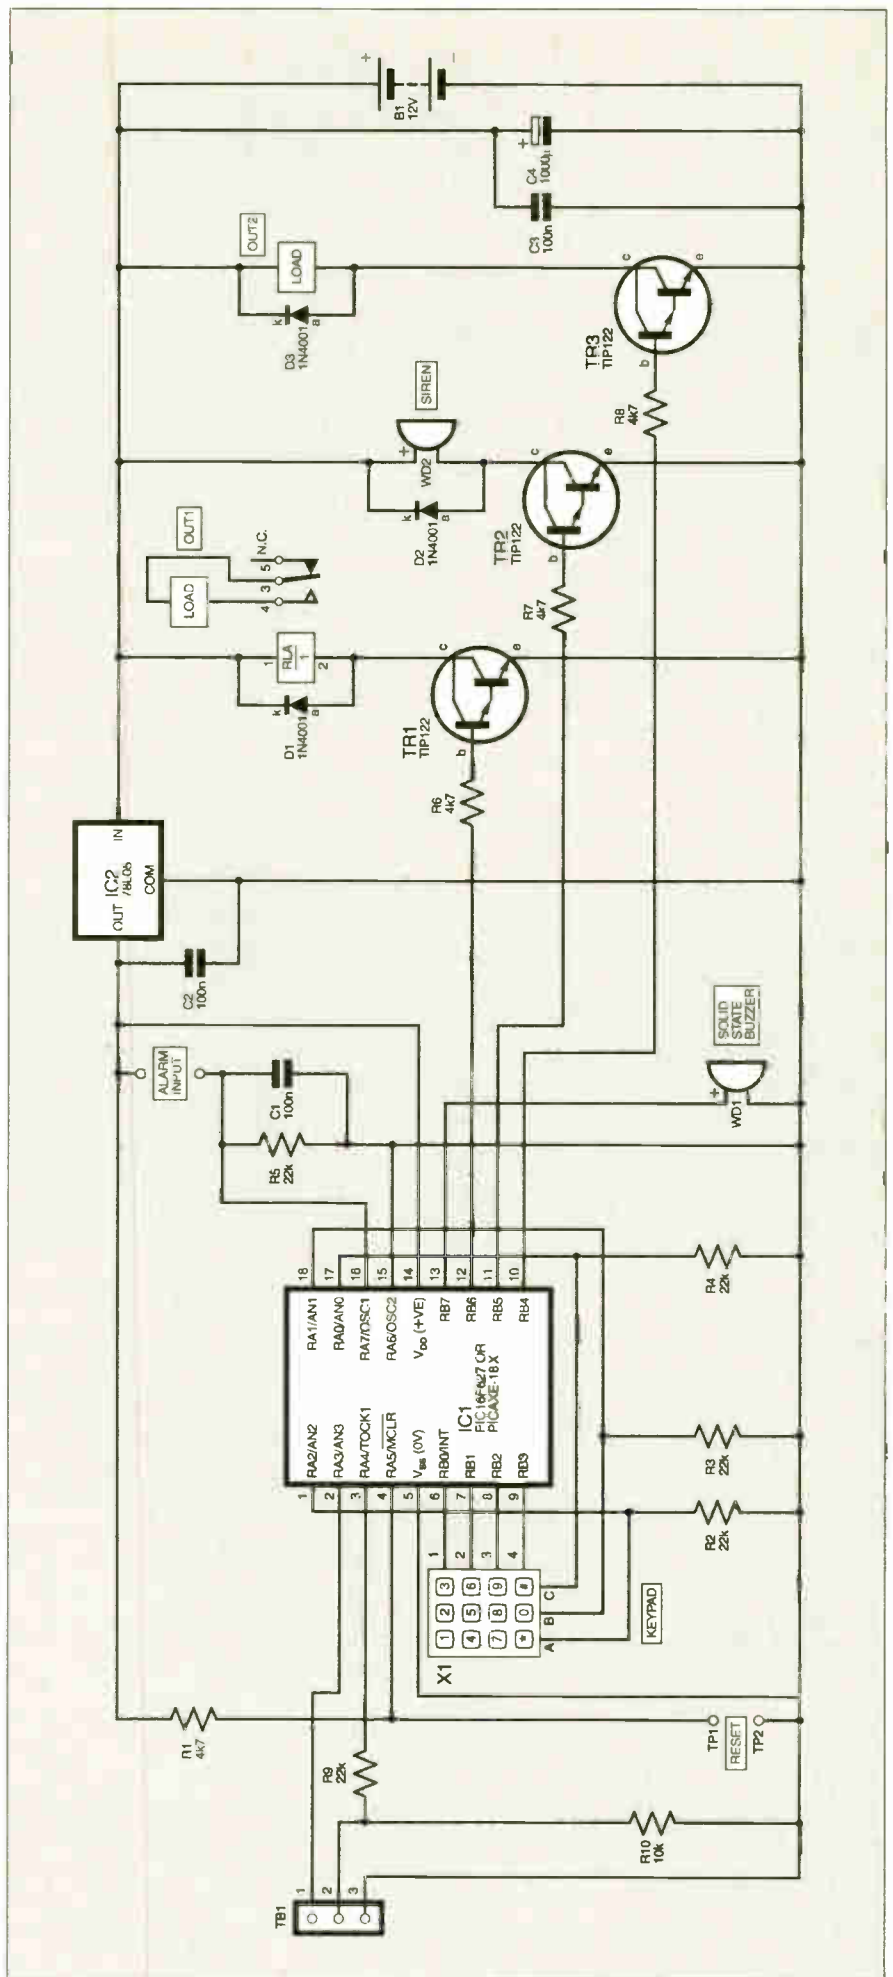

Fig. 9.19. Circuit diagram for a PIC-controlled combination-lock alarm monitor.
The schematic of a PIC-controlled combination lock circuit is shown in Fig. 9.19. Again the PIC may be a PIC16F627 or a PICAXE-18, but the latter must have the "X" suffix (PICAXE-18X) because the program code is too lengthy to fit in the standard device.
**Combination Lock, Fig.9.19**
Preprogrammed PICAXE-18X micro-controllers for the circuits in Fig.9.13 and Fig.9.19 can be obtained from: M. P. Horsey, Electronics Dept., Radley College, Abingdon, Oxon OX14 2HR. The price is £5 per PIC, including postage. Specify that the PIC is for *Teach-In 2004* Part 9 and quote the figure number for which the device should be programmed. Enclose a cheque payable to Radley College.